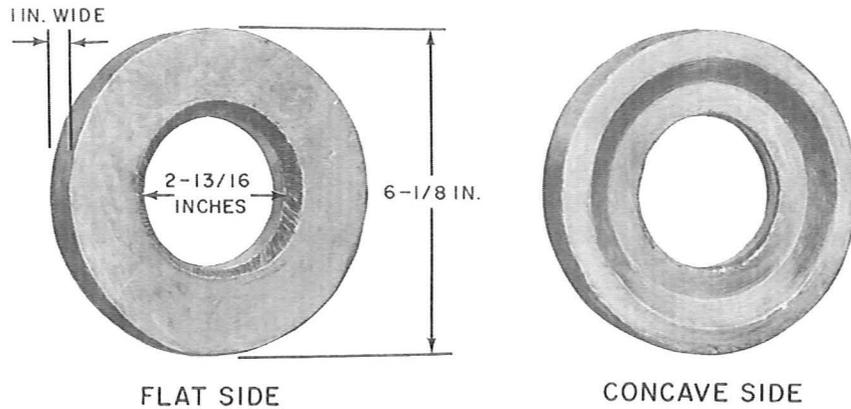

Fig. 3—B Lead Disc
2.04 The B Lead Disc (Fig. 3) is 1 inch wide, 6-1/8 inches outside diameter, and 2-13/16 inches inside diameter. It fits over the cable inside the B Lead Ring.